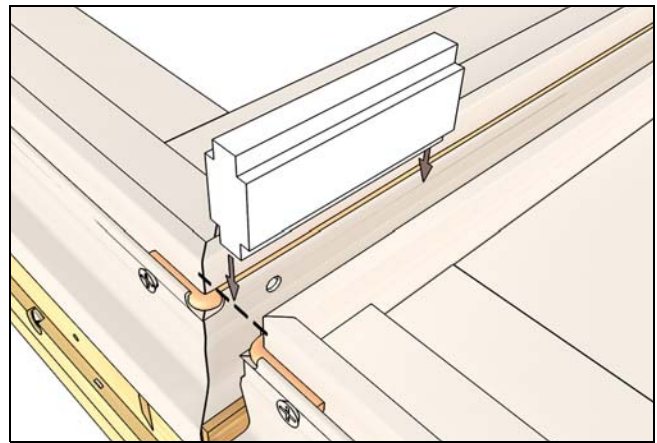

Figure 10
11. Cut two 3" (76) mull foam filler blocks and place them in the mull cavity at the top and bottom. Foam filler should be flush with the top and bottom interior accessory kerf. See Figure 10.